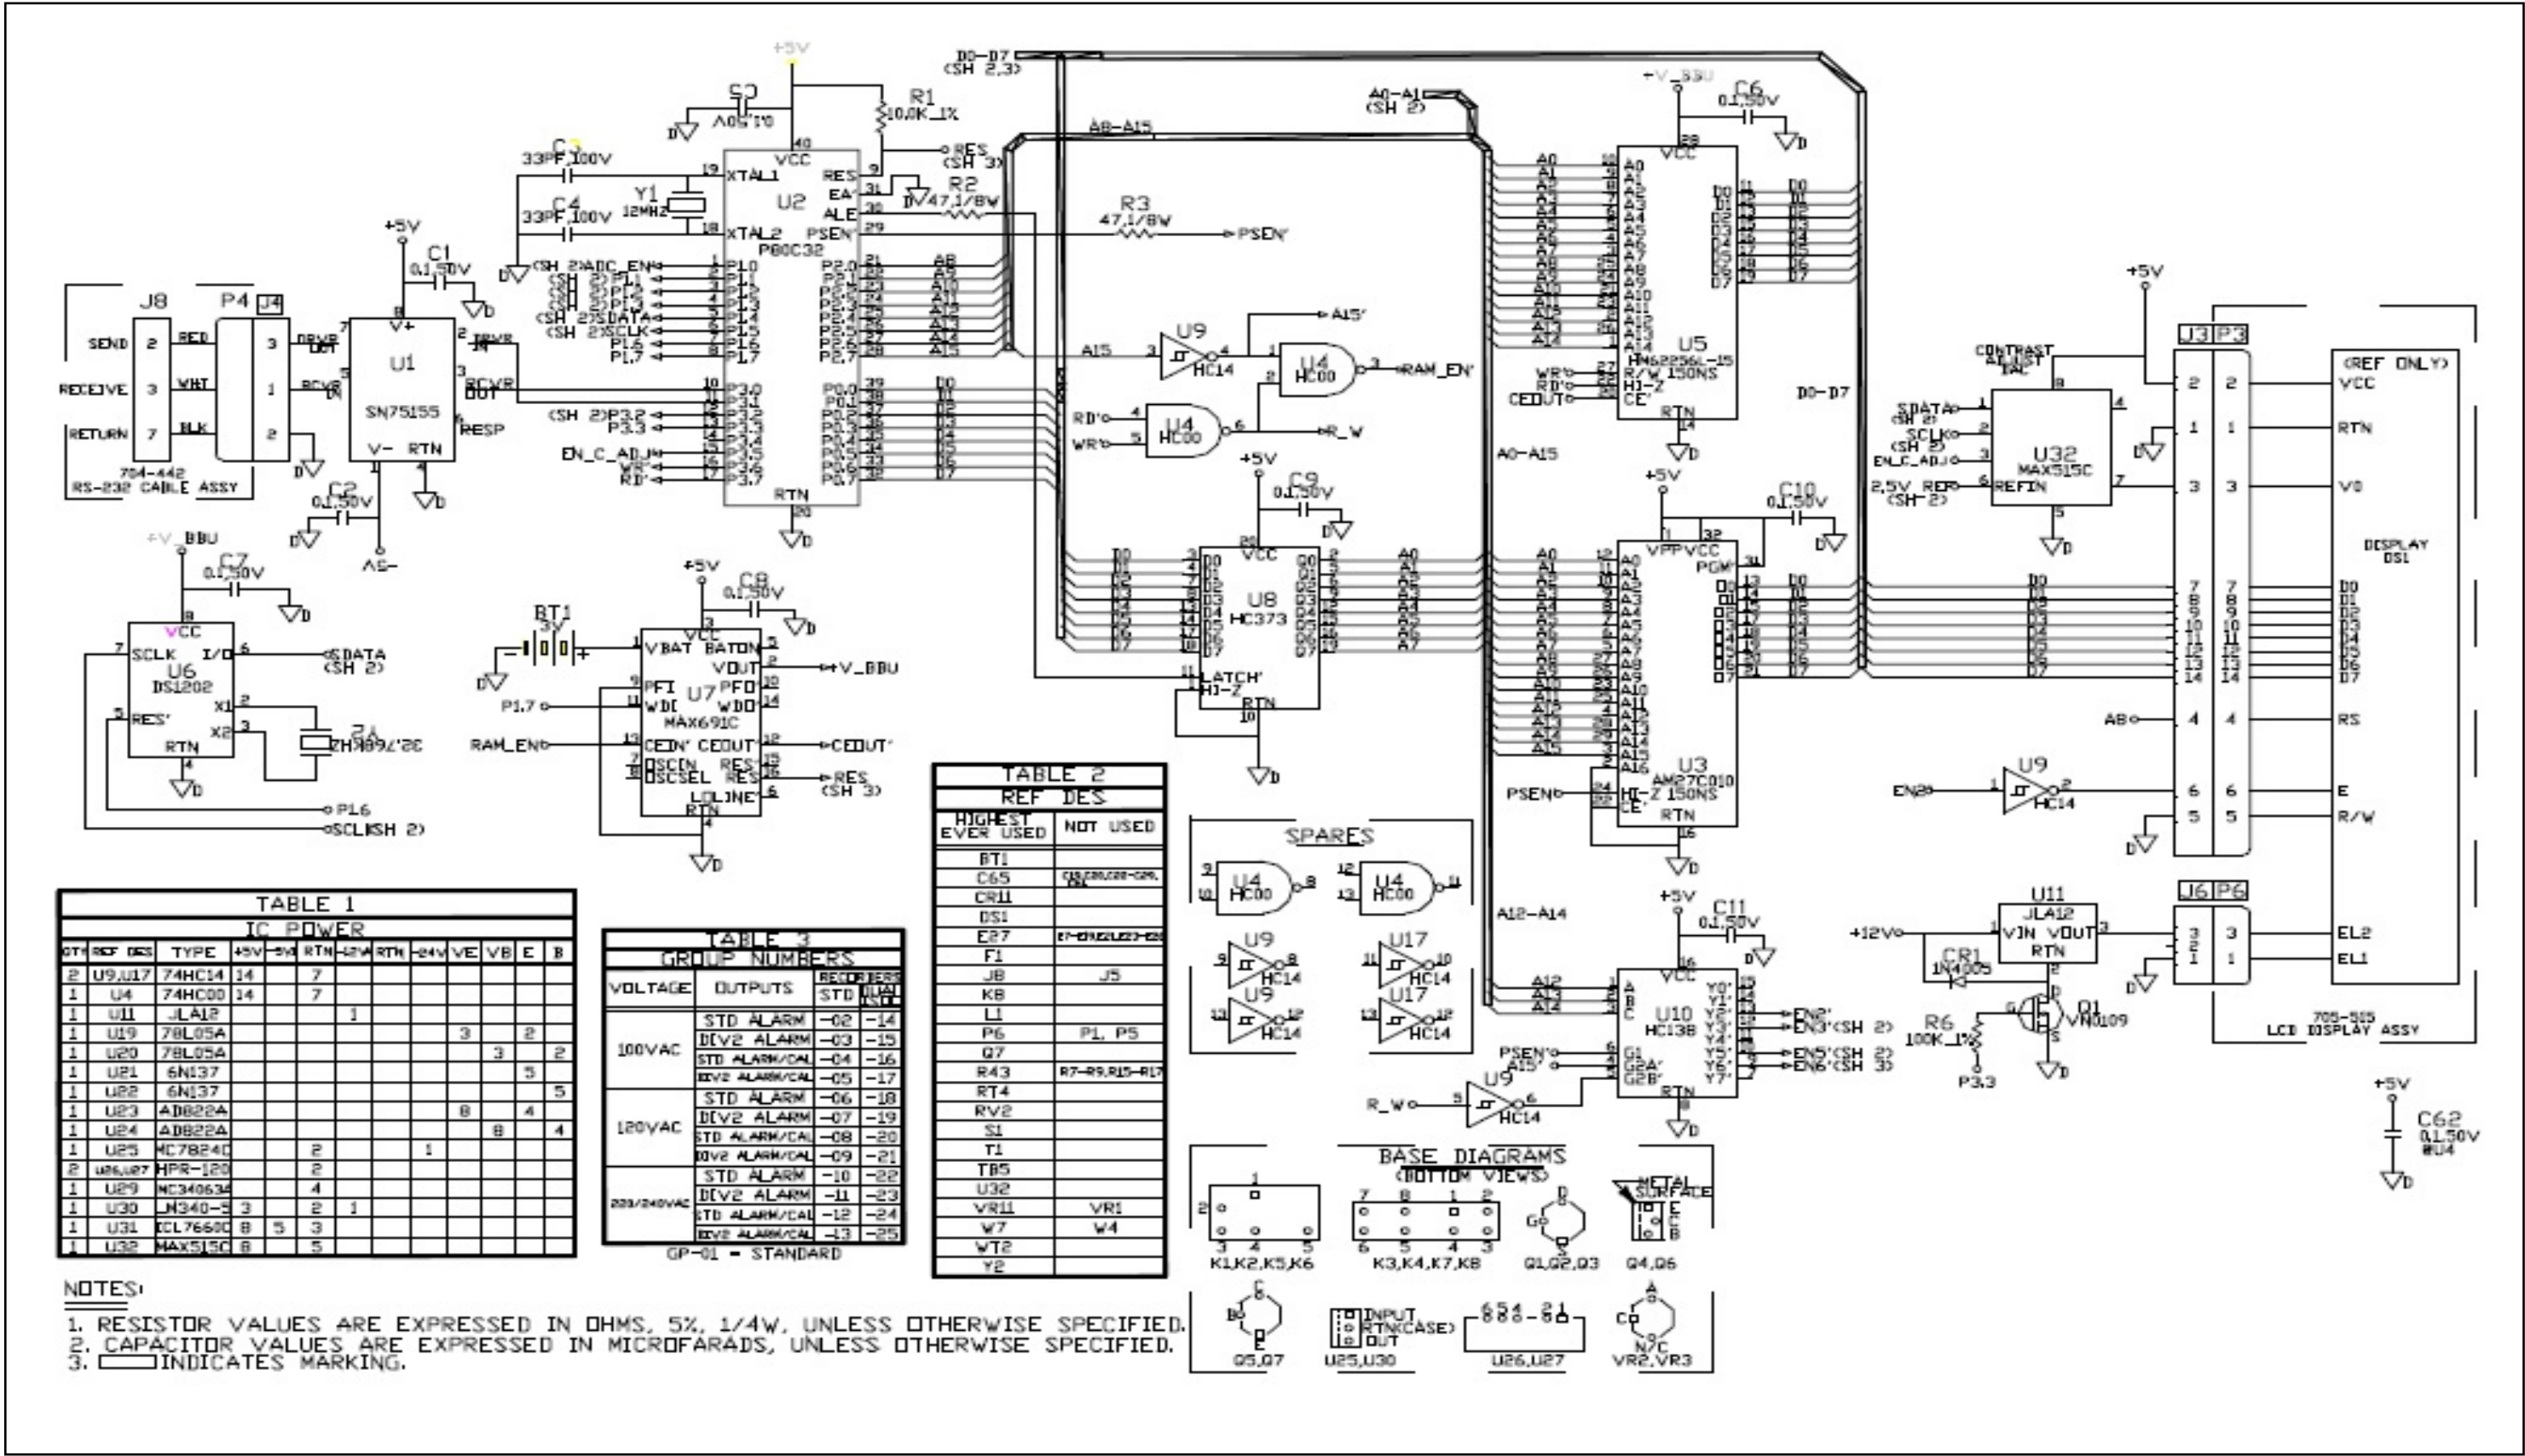

Figure 23: Oxygen Display PC Board Schematic (ref. dwg #700-1226, sht 1)
- *Figure 23:* Oxygen Display PC Board Schematic, sht 1